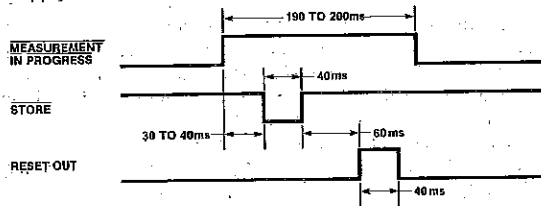

Figure 5: RESET OUT, STORE, and MEASUREMENT IN
**Outputs** - These Outputs are provided to facilitate external interfacing. Figure 5 shows the relationship between these signals during the time between measurements. All three outputs can drive a low power Schottky TTL load. The MEASUREMENT IN PROGRESS output can directly drive one ECL load, if the ECL device is powered from the same power supply as the ICM7226.